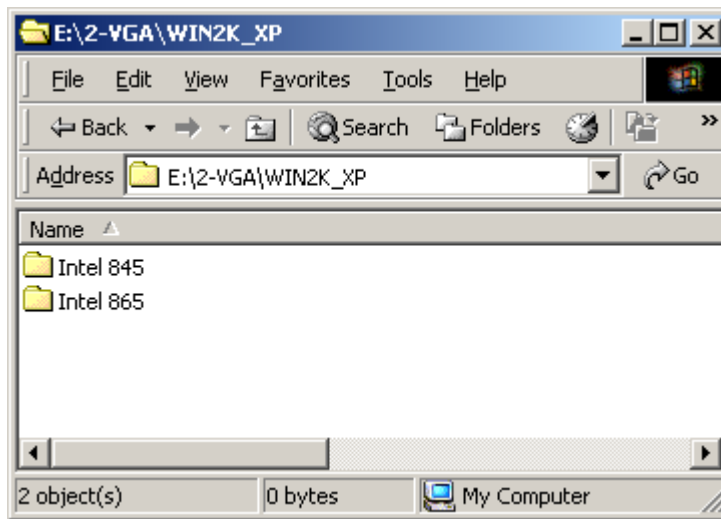

Figure 7-8: VGA Chipset Folder
Step 4: A new window appears (**Figure 7-8**).